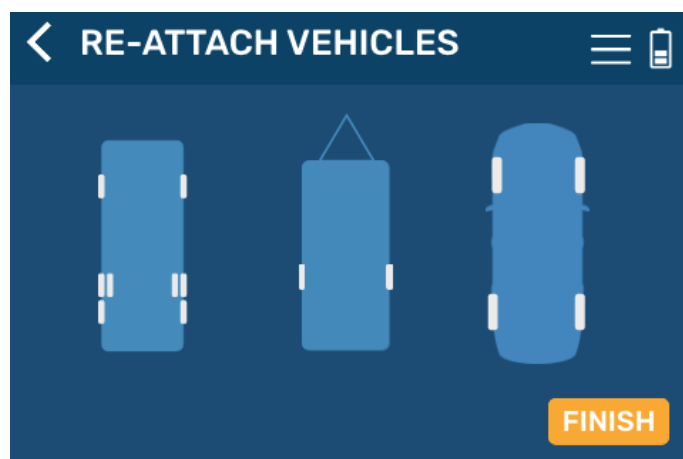

Fig.31
4. Select another vehicle to reattach (Fig.31) or tap **FINISH** to return to the main tire pressure screen.